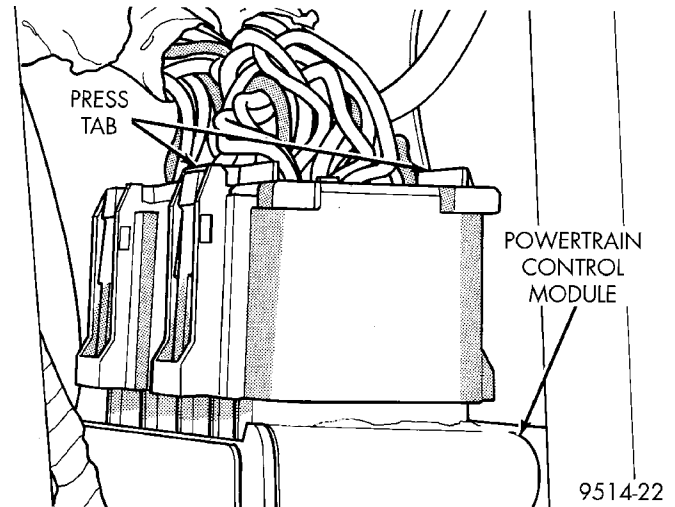

Fig. 35 PCM 40-Way Connectors
(8) Squeeze tabs on 40-way connector. Pull connector rearward to remove from PCM (Fig. 35). Remove both way connectors.
(1) Connect 2 40-Way electrical connectors to PCM (Fig. 35).
(2) Install PCM. Tighten mounting screws.
(3) Install PDC bracket.
(4) Install battery.